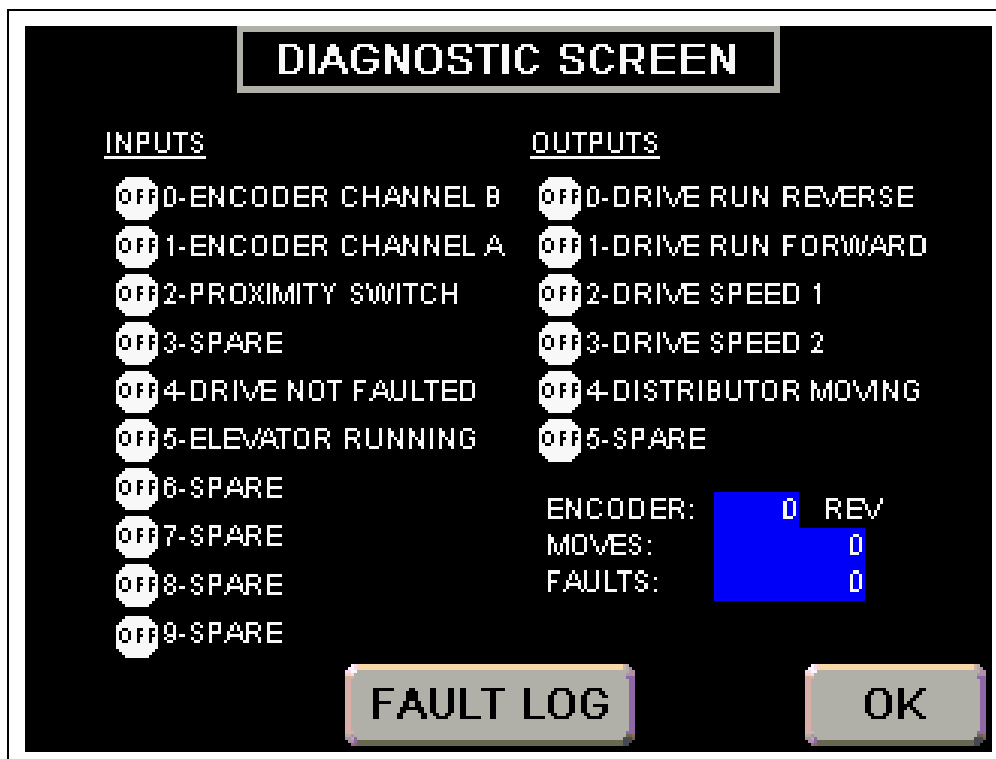

Figure 4Z Diagnostic Screen
**Diagnostic Screen:** Displays the status of the inputs and outputs of the Programmable Logic Controller (PLC) as well as the current encoder position count and rotation direction. (See Figure 4Z on Page 37.)